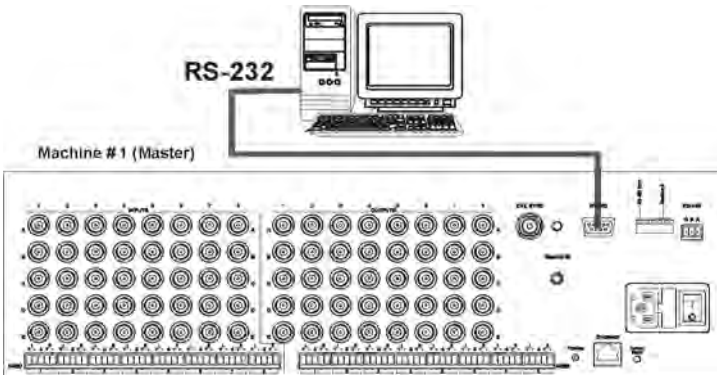

Figure 7: Connecting to the VP-885 via RS-232 using a PC
**To connect to the VP-885 via RS-232 as illustrated in Figure 7:**